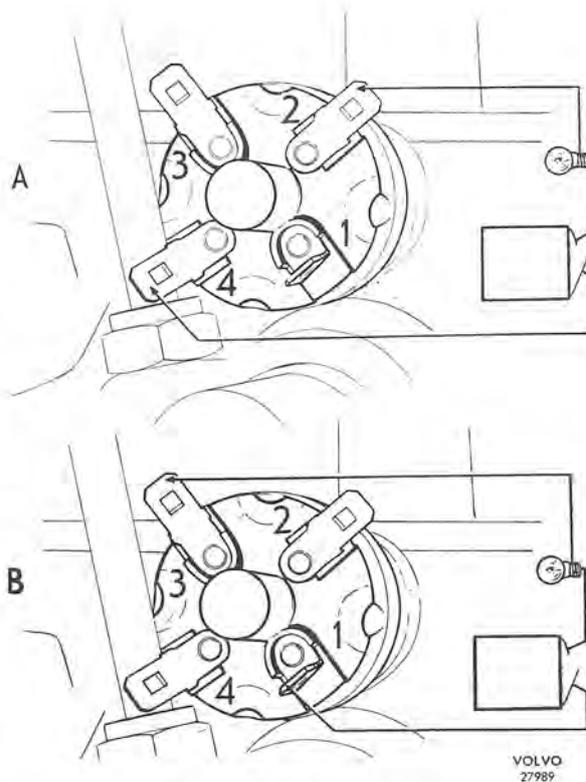

Fig. 4-72. Adjusting starter inhibitor
3. Connect a control lamp to the reversing light terminals as shown in Fig. 4-72 "A". Screw in
4. Connect the control lamp to both the other terminals, Fig. 4-72 "B". Screw in the switch until the lamp lights again and then mark the switch again. Then screw back the switch to halfway between both the marks. Lock with the locknut. Connect the leads.